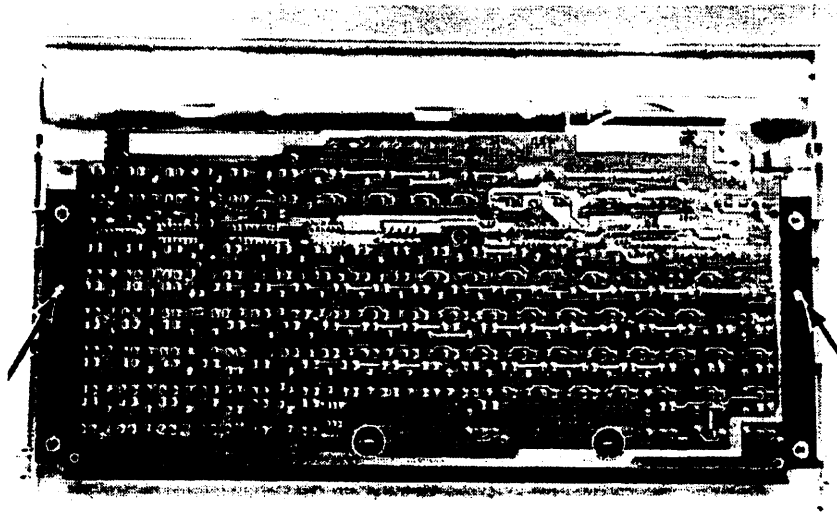

Figure 6-36. Keyboard Assembly—Mounting Screws
5. Remove the two keyboard assembly mounting screws. See figure 6-36.